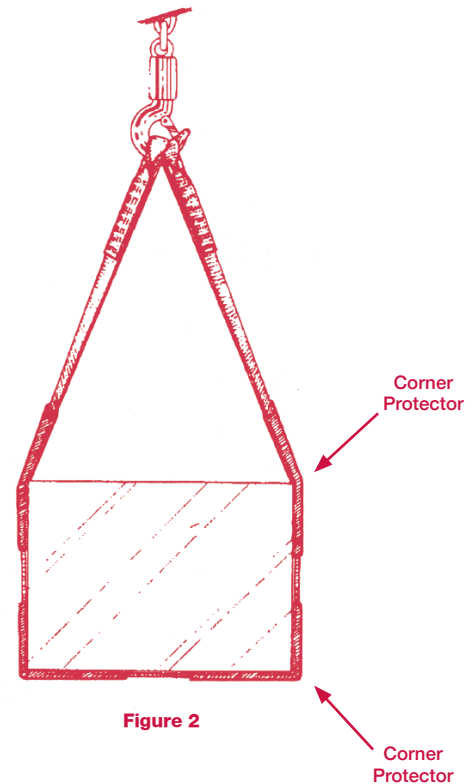

Figure 2
**PREVENT DAMAGE** – Use corner protectors when bending around corners. (see example Figure 2)